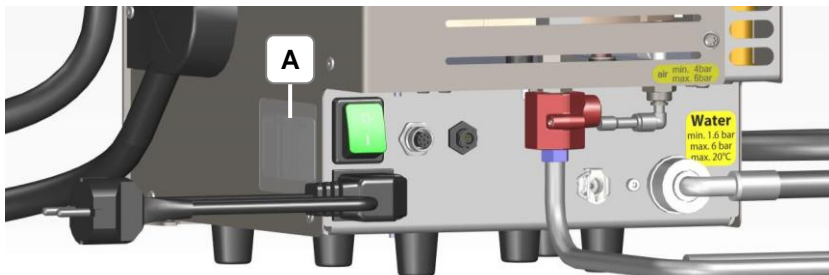

Figure 4.1.1: Nameplate (on the side of the unit)
**Nameplate** Connect the device to a suitable mains supply plug socket. The technical data on the nameplate (Figure 4.1.1-A) must correspond fully with the available connecting conditions, in particular mains voltage and current connected load.